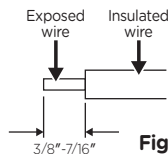

Figure 6
- Using wire strippers, strip the house AC power supply line wire (black), neutral wire (white) and ground wire (green) to expose 3/8in. (9.5mm) - 7/16in. (11.1mm) of wire (see **Figure 6**).